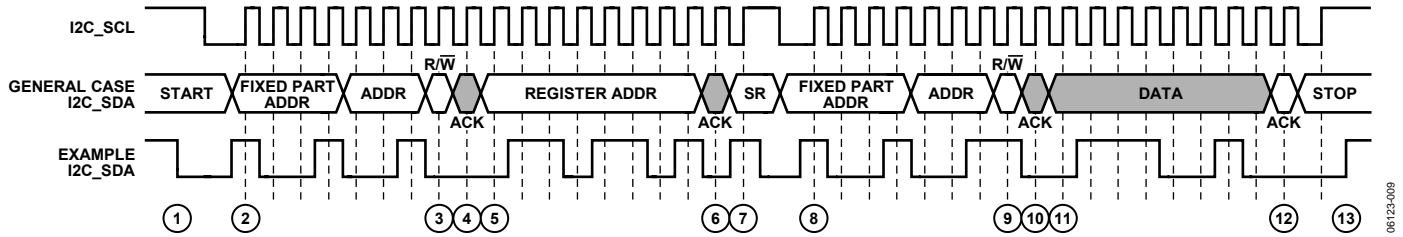

Figure 30. I2C Read Diagram
To read data from the AD8197 register set, an I2C master (such as a microcontroller) needs to send the appropriate control signals to the AD8197 slave device. The signals are controlled by the I2C master, unless otherwise specified. For a diagram of the procedure, see Figure 30. The steps for a read procedure are as follows:
9. Send the read indicator bit (1).
- 13a. Send a stop condition (while holding the I2C\_SCL line high, pull the SDA line high) and release control of the bus to end the transaction (shown in Figure 30).